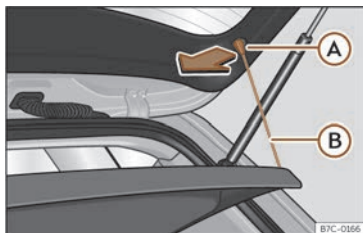

Fig. 171 In the boot: removing and installing the shelf.
- Detach the cord loops >>> **Fig. 171** **B** from their hooks **A**.
- Attach the securing straps >>> **Fig. 171** **B** onto the rear lid.